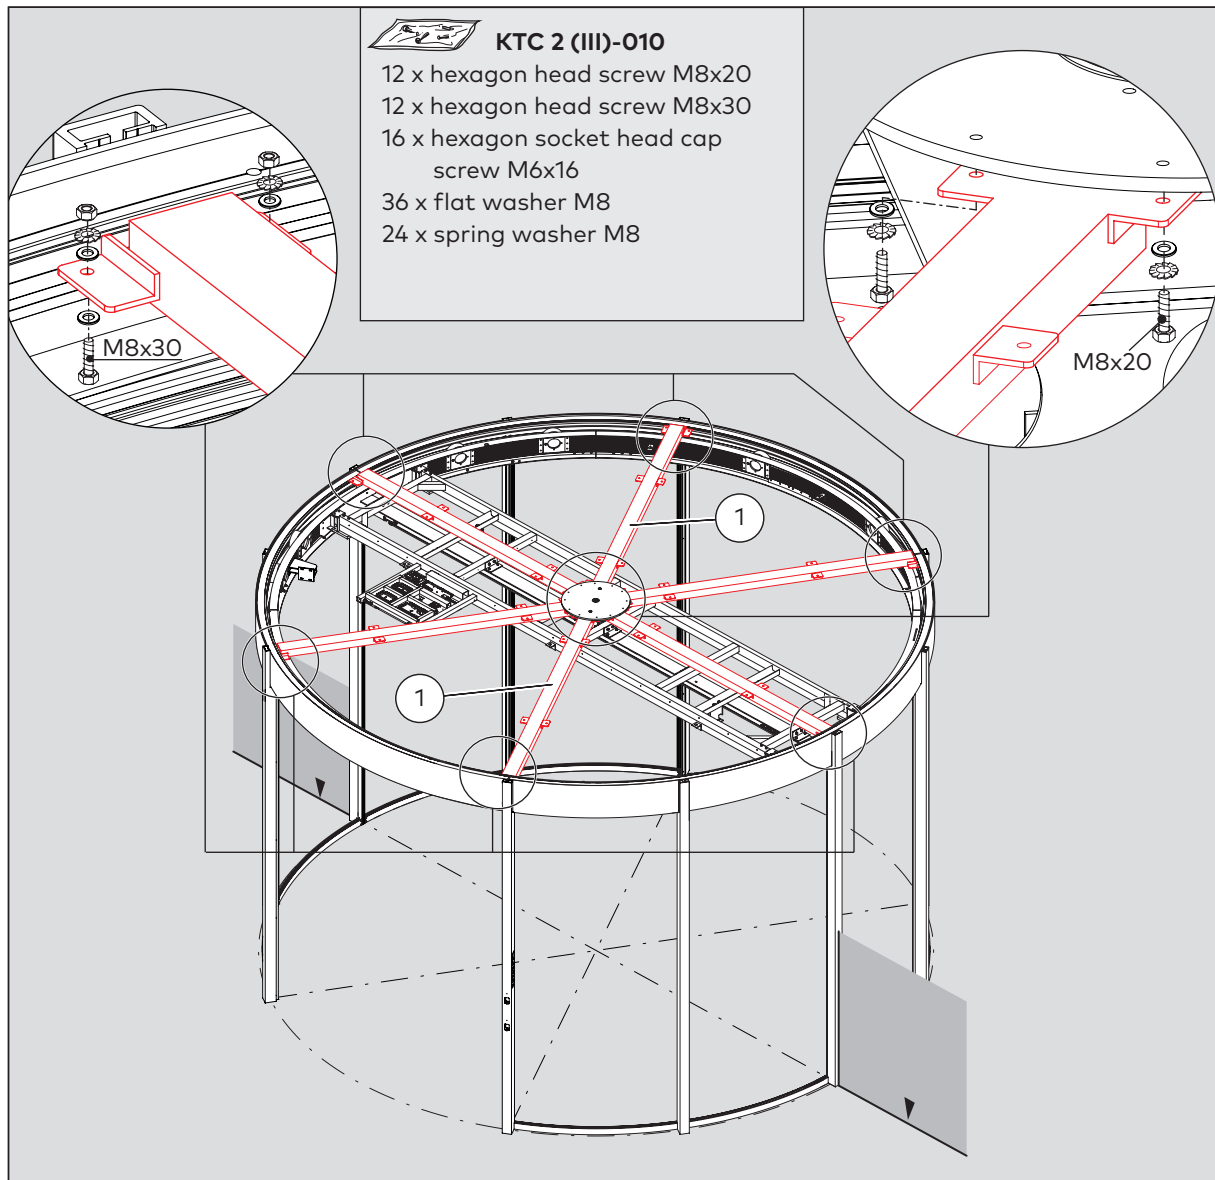

Fig. 45 Mounting the reinforcement of the track rail
1. Attach the reinforcement to the track rail. Make sure that the reinforcement with the cable duct (Fig. 45/1) is positioned as shown in Fig. 45. Do not tighten the screws yet.